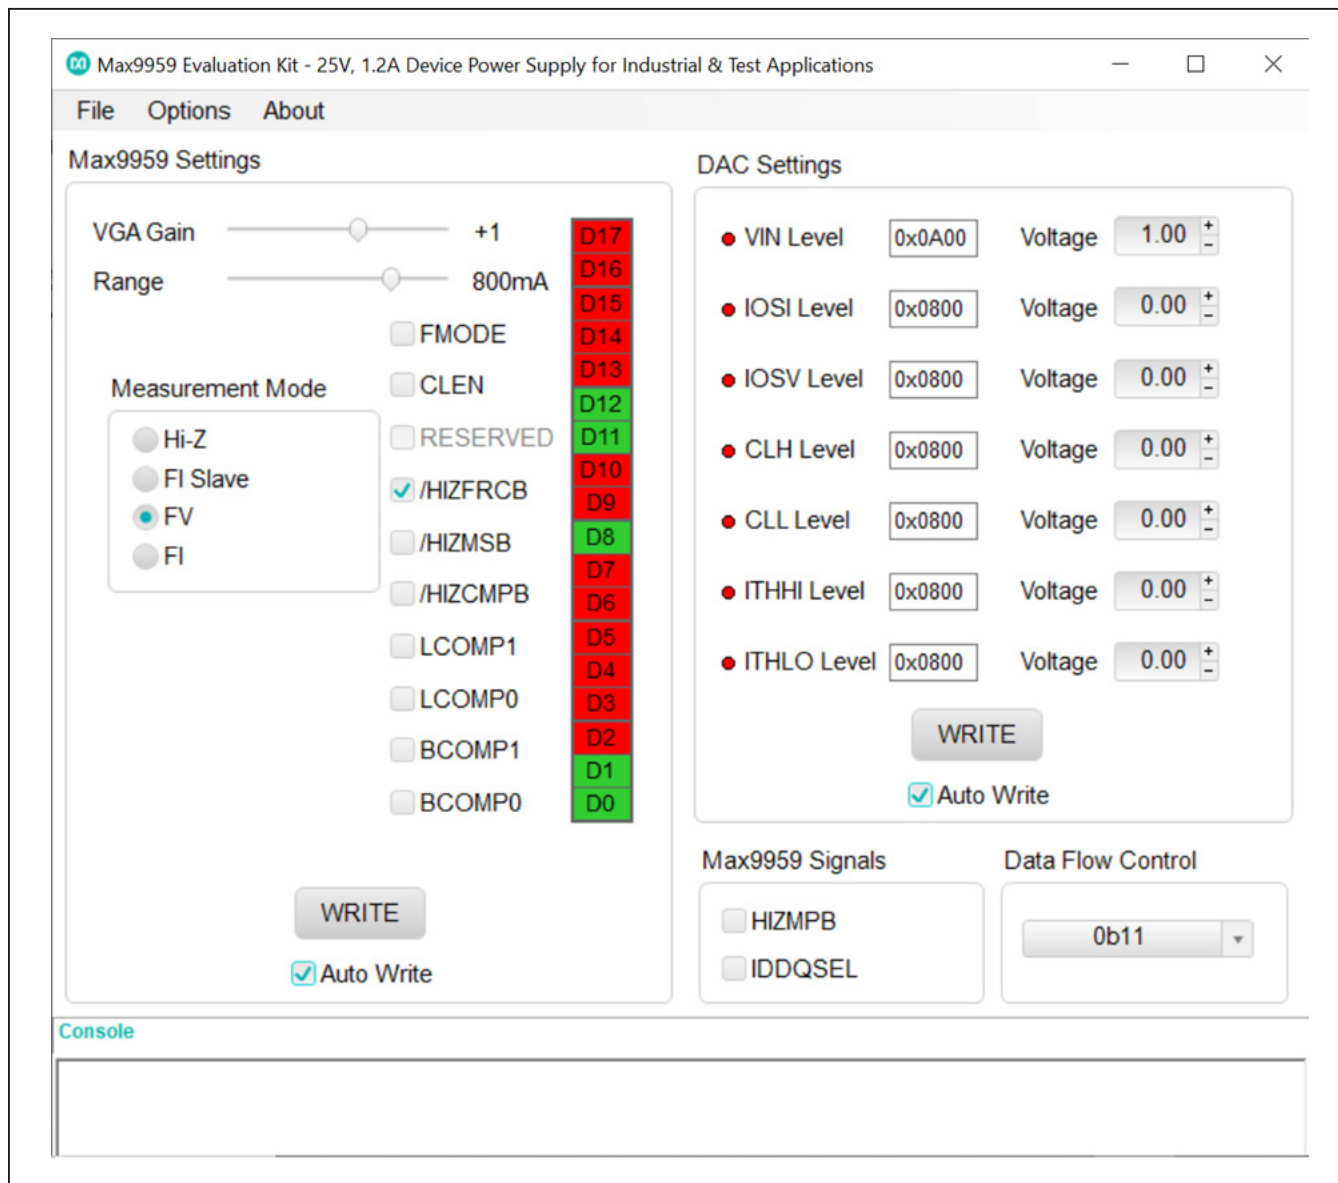

Figure 1. MAX9959 EV Kit Quick Start Settings
- 5) Start the MAX9959 EV kit software by opening its icon in the **Start | Programs** menu. The EV kit software main window should appear, as shown in Figure 1.
- 8) Check that the output voltage at DUT_NODE is close to +1V. Figure 1 shows the MAX9959 EV kit quick start settings.
The main window of the evaluation kit software is shown in Figure 1.